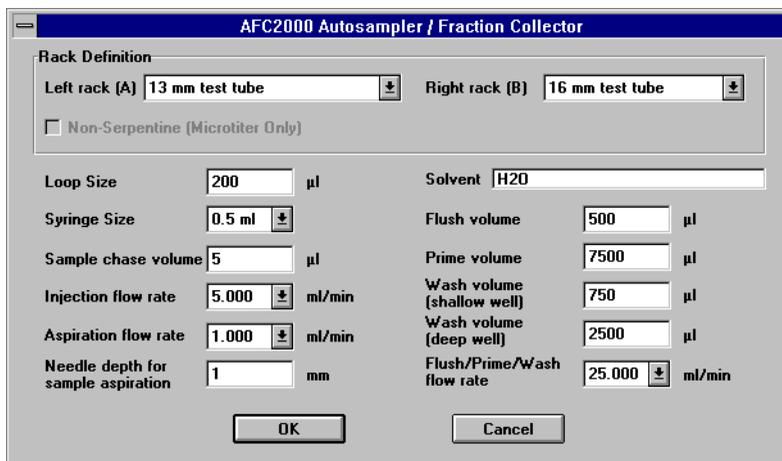

Figure 3-11 AFC 2000 Autosampler/Fraction Collector Dialog Box
2. Make sure you enter an appropriate prime volume when you configure the AFC 2000 as an integrated autosampler (see Figure 3-11). The prime volume should be large enough to fill the line and remove all air bubbles.
The AFC 2000 Autosampler/Fraction Collector dialog box is displayed (Figure 3-11).